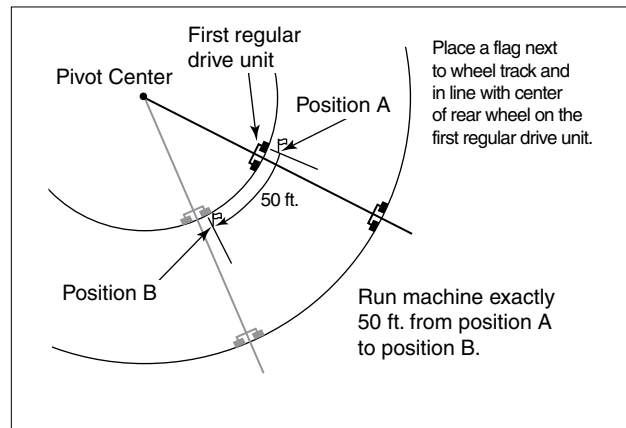

Figure 36-1
2. Place a flag next to the wheel track and in line with the center of the rear wheel on the first regular drive unit. This is position A. Refer to Figure 36-1.